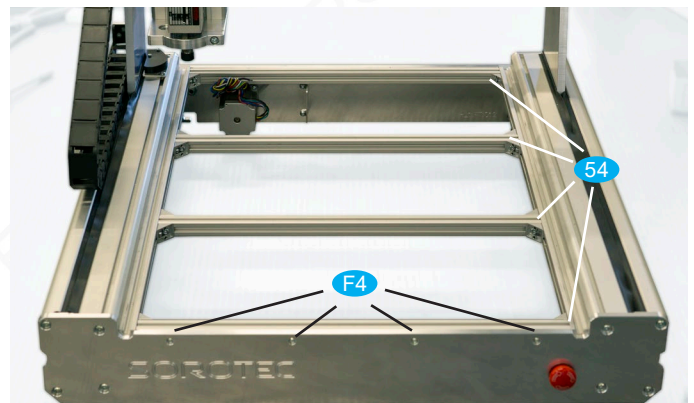

Fig. 39: The finished base for the table top. The number of screws in the face plate depends on the width of the machine.
- Screw a table profile 54 mit with flat head screws F4 and hammer nuts H1 from the inside to the front and rear face plate, as shown in Fig. 39.